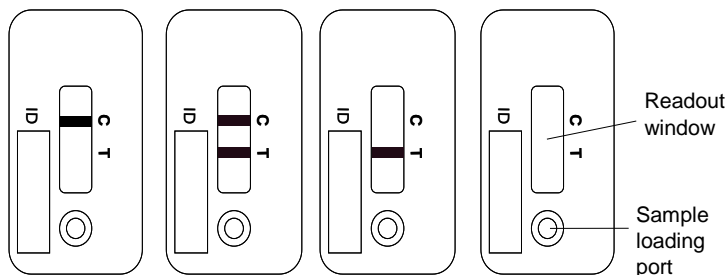

Figure 1A Figure 1B Figure 1C Figure 1D
- For a valid test result, the Control Line (C) must be visible in any case (see figure 1A and figure 1B). It is used as a functional test control only and cannot be used for the interpretation of the Test Line (T). If the Test Line (T) is not detectable after 15 minutes of incubation time (figure 1A), the concentration of infliximab present in the serum sample is below the detection limit. If a Test Line (T) is detectable after 15 minutes of incubation time (figure 1B), the infliximab concentration present in the serum sample is calculated by the Quantum Blue® Reader.